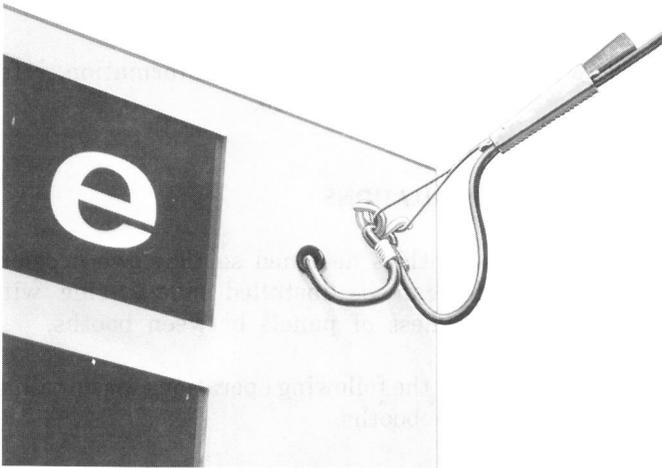
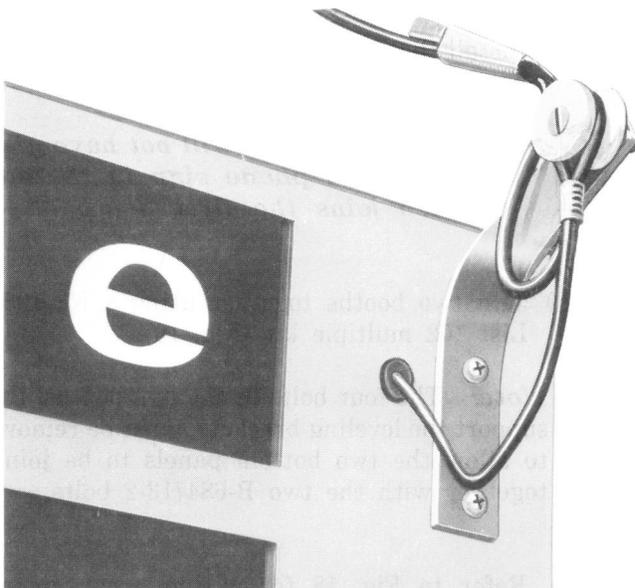

Fig. 13—Drop Wire Hook for First Attachment
Fig. 14—Corner Bracket for First Attachment
3.05 Attach drop wire hook (Fig. 13) or corner bracket (Fig. 14) (whichever is required) on right rear column adjacent to the entrance hole as follows.
- (1) Secure drop wire hook (Fig. 13) to clinch nut (provided with booth) using one 1/4-20 by 3/4 FHM screw, one 1/4-inch flatwasher, and one 1/4-inch lockwasher.
- (1) Secure the corner bracket (Fig. 14) to the threaded clinch nut using one 1/4-20 by 3/4 Phillips RHM screw.
- (2) Using the bracket as a template, drill a clearance hole for another 1/4-inch screw.
- (3) Further secure the bracket to the booth using one 1/4-20 by 3/4 Phillips RHM screw, one 1/4-inch flatwasher, one 1/4-inch lockwasher, and one 1/4-inch hex nut.